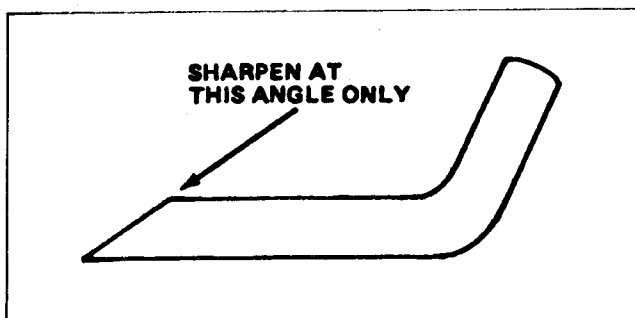

Figure 13
6. **SHARPENING THE BLADE** - Using a file, sharpen the top side of the blade (side facing mower housing) and maintain original cutting angle. Do not over-sharpen or the blade will dull very quickly. See Figure 13. The blade will remain balanced if the same amount of material is removed from both cutting edges.